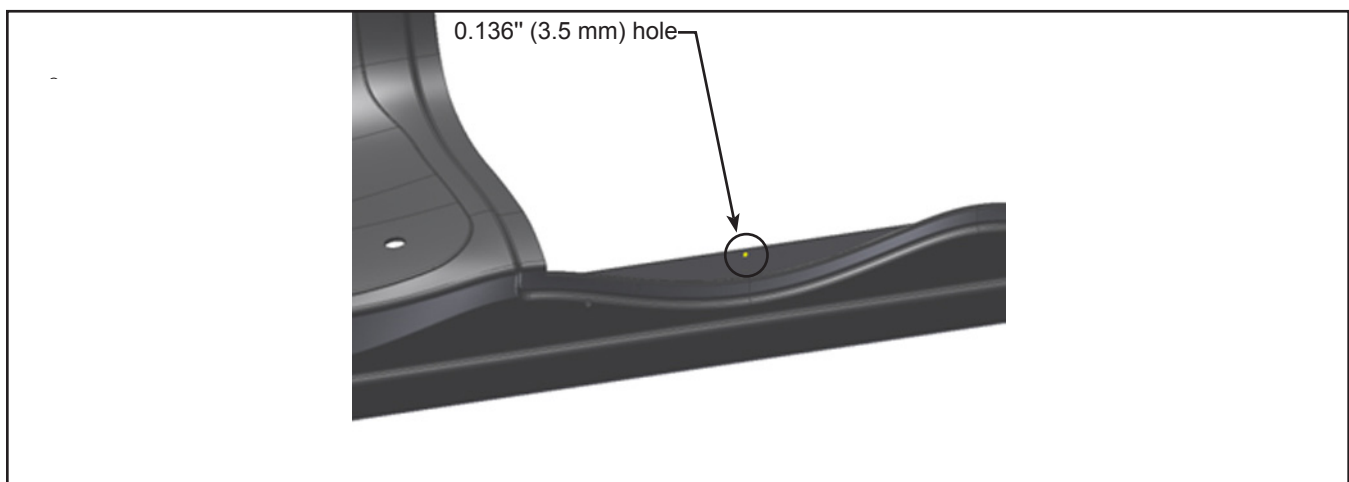

Figure 5 - Drilled Hole in Steel Underframe (Curb Side Seat Shown / Street Side Similar)
- 1.11. Mark the steel underframe of the seat by inserting a center punch through the bushing. See Figure 5.
- 1.13. Locate the markings from step 1.11 and drill a 0.136" (3.5 mm) dia. hole through the steel underframe at both locations. See Figure 5.